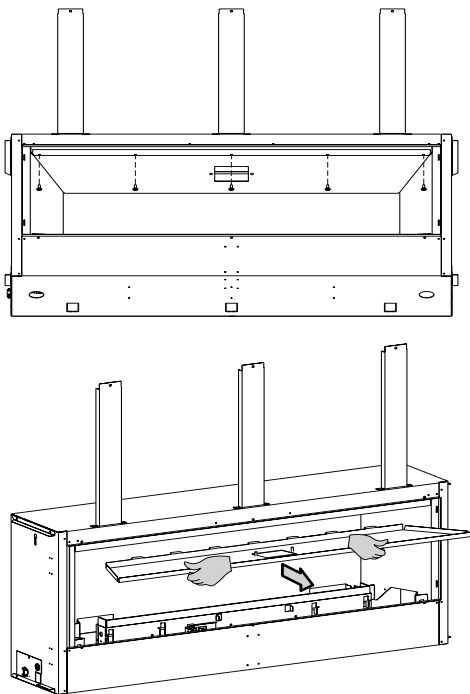

Figure 4
4. Remove the inner firebox top by removing five Phillips Truss Head Screws. **See Figure 4.**
9. Reinstall the inner firebox top. Secure in place with the five Phillips Truss Head Screws removed in Step 4. **See Figures 4 and 9.**